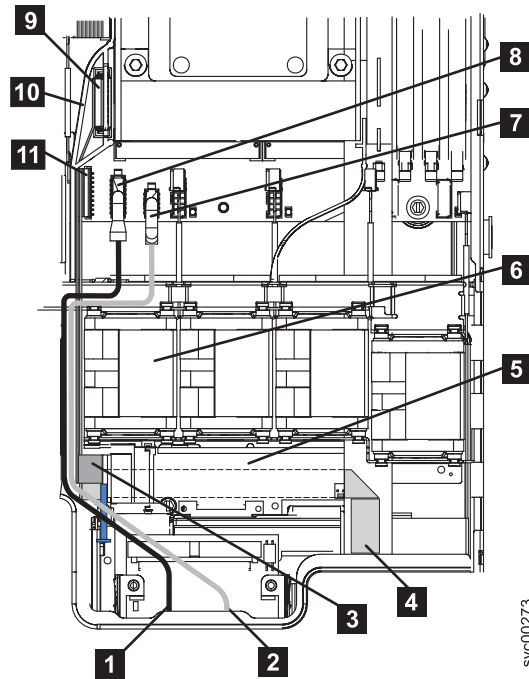

Figure 211. SAN Volume Controller 2145-8G4 video, USB, and the CD/DVD cables
7. Unplug the video cable **8**, the USB cable **7** and the CD/DVD cable **9** from the system board. There is no need to completely remove these cables. Unplugging them makes it easier to maneuver the light path ribbon cable **4**. In Figure 211 on page 227, the front of the node is at the bottom of the illustration.